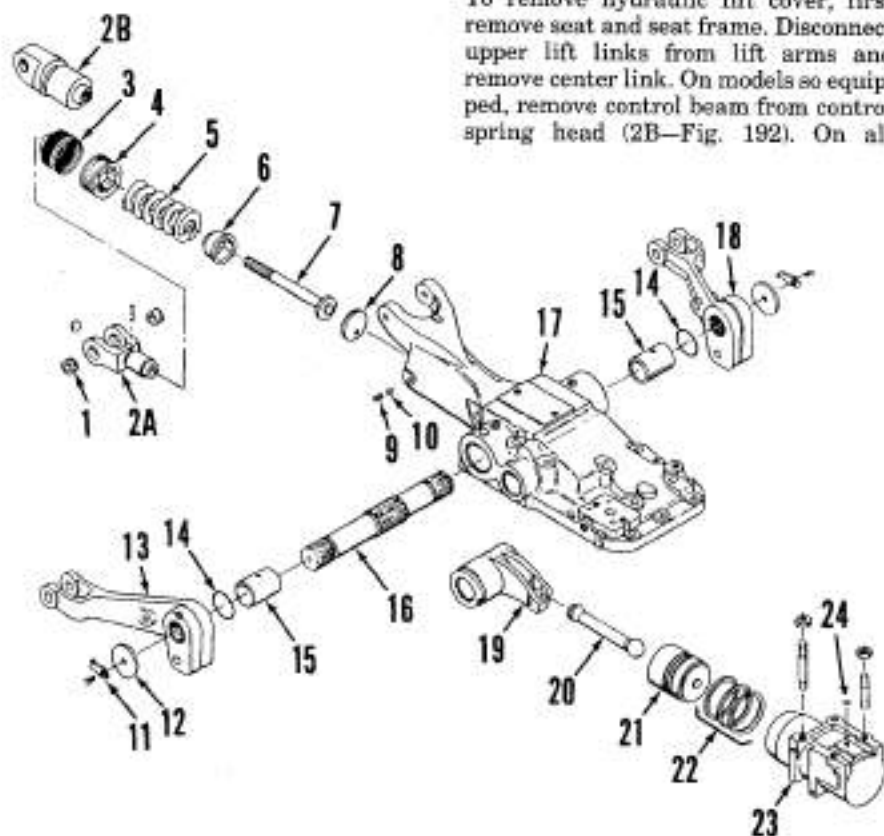

Fig. 192—Exploded view of hydraulic lift cover, master control spring, rockshaft, lift cylinder and associated parts.
**207. REMOVE AND REINSTALL.** To remove hydraulic lift cover, first remove seat and seat frame. Disconnect upper lift links from lift arms and remove center link. On models so equipped, remove control beam from control spring head (2B—Fig. 192). On all
**208. OVERHAUL.** To disassemble, first unscrew control spring adjusting nut (4—Fig. 192) and withdraw control spring assembly from lift cover. Remove dashpot assembly (53—Fig. 193). If equipped with pressure control, remove diaphragm (52), pressure control valve
To remove rockshaft (16—Fig. 192) and lift cylinder (23), first remove left-hand lift arm (18). Slide shaft with right-hand arm out right side of lift cover. Remove bushings (15) and "O" rings (14). Remove rockshaft arm (19) with rod (20) from lift cover. Remove stud nuts securing lift cylinder and remove cylinder from lift housing. Remove piston from cylinder.
Check and adjust master control spring (5—Fig. 192) as outlined in paragraph 194. Make sure draft control rod does not contact spring plunger when adjusting master control spring. Move draft control lever to fully lowered position on quadrant and, if necessary, place a wedge between lift cover casting and draft control rod adjusting screw.